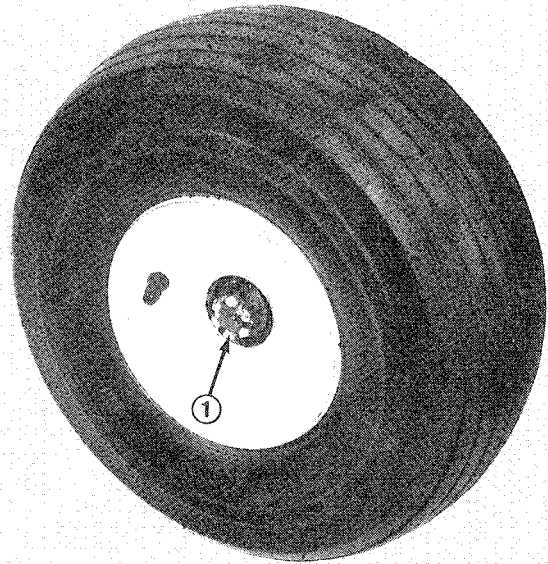

Figure 55
2. Remove dust cap from end of wheel spindle. Also remove cotter pin retaining slotted nut in place (Fig. 55).